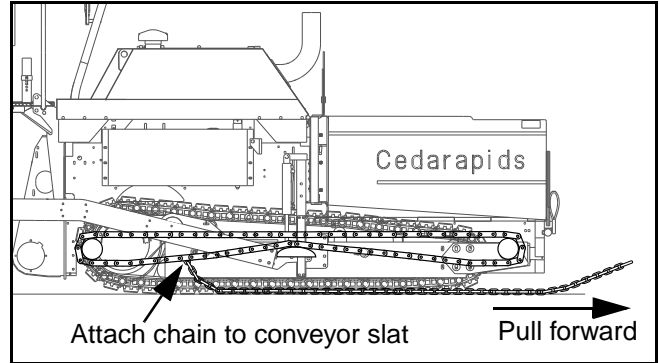

Figure 5 - 8 Attach chain to conveyor slat
- 2) Run a chain under the paver from the front to the back. Attach chain to the slat conveyor on the bottom rear of the slat conveyor. (Figure 5 - 8)